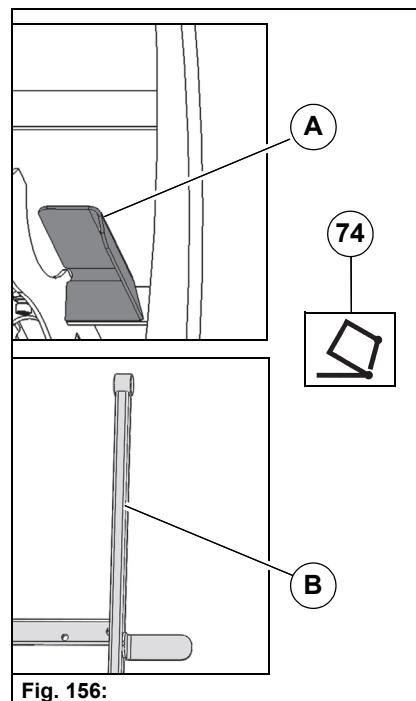

Fig. 156:
- Always bring and insert the safety strut **Fig. 156-A** of the dirt hopper into the upper position during maintenance and cleaning work under the raised dirt hopper. There is a risk of injury!
Hinge over the safety strut **Fig. 156-B**.
Lower the dirt hopper with the button **Fig. 156-74** and insert the safety strut in the recess **Fig. 156-A**.
- Dirt hopper bearing left/right (2 pcs.) **Fig. 156-E**